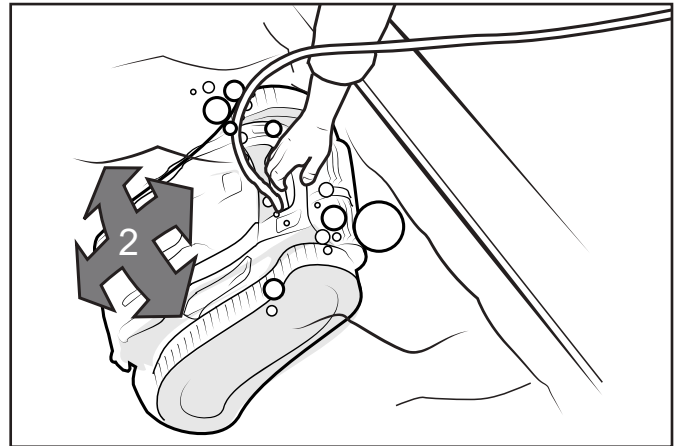

Figure 6. Cleaner Sinking to the Bottom of the Pool
3. Ensure the unit sinks to the bottom of the pool and does not float (Figure 6).